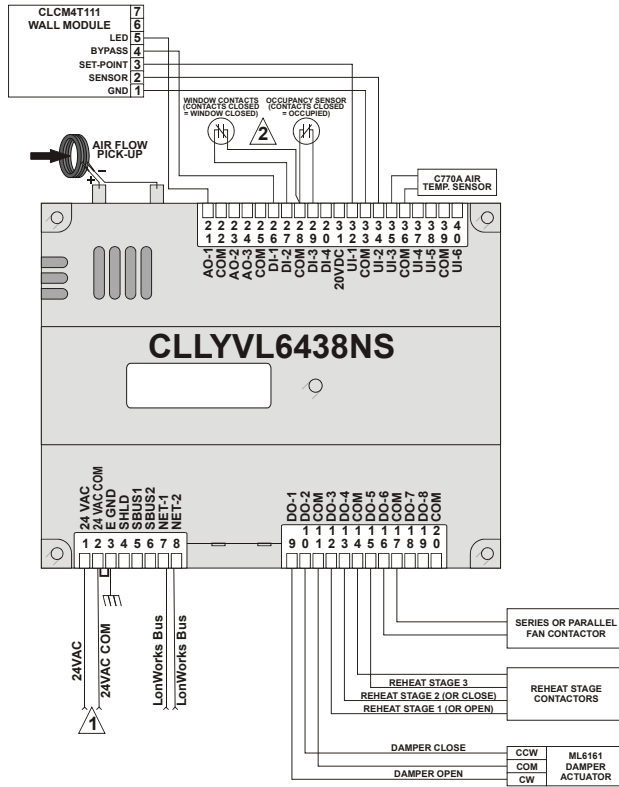

Fig. 15. Controller wiring diagram (CCLLYVL6438NS shown) for typical VAV application
- Typical controller wiring for VAV application using the CLCM4T111 Wall Module and an LF20 Air Temperature Sensor (see Fig. 15).